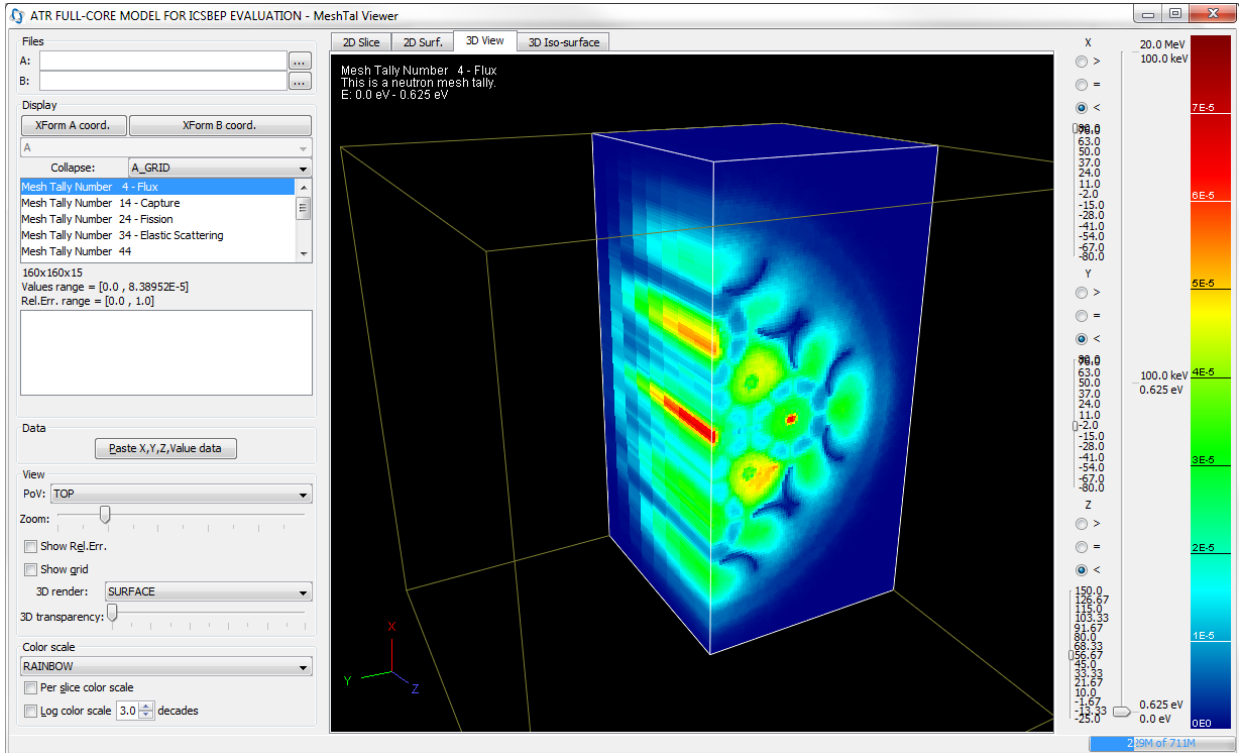

Figure 13: 3D tomographic view, ATR thermal flux.
- 3D View, Shown in Figure 13,